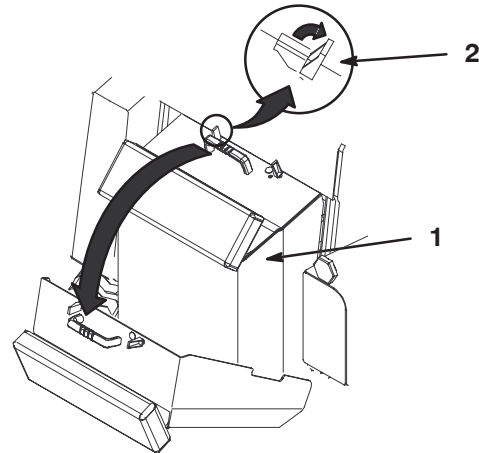

Figure 19
2. Release the two locking tabs on top of the rear access cover (Fig. 19).
3. Grasping the handle, pull the cover up and back to swing it open (Fig. 19).